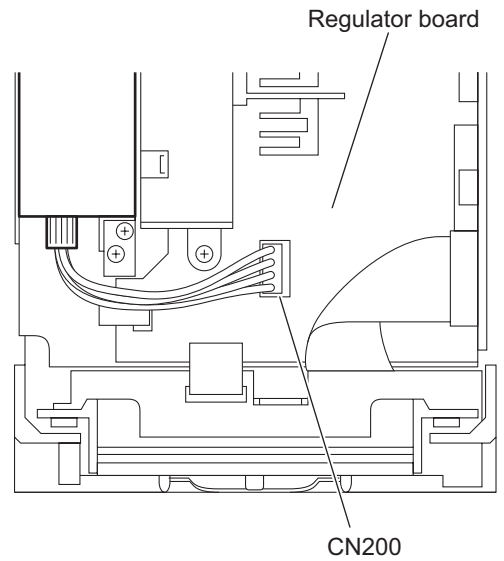

Fig.13
3.1.6 Removing the switching power supply (See Figs.13 and 14)
- (1) From the top side of the main body, disconnect the wires from the connector CN200 on the regulator board. (See Fig.13.)